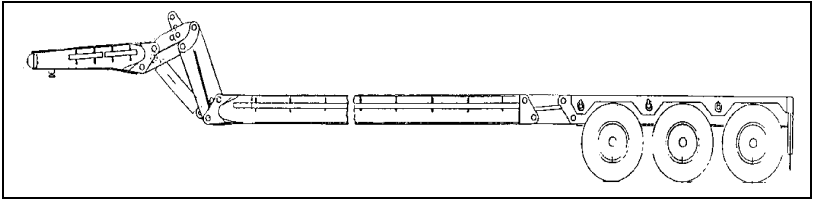

Fig 7-5-2 35 Ton Variable Deck Trailer
2. **Tractor Trailer.** The current tractor trailer unit is the HLVW 20-Ton tractor with a 35-Ton variable deck trailer (front and rear gooseneck) (Fig 7-5-2). It is suited for transporting engineer stores and equipment on long and short hauls. It has some cross country capability and can be used as a recovery vehicle, if necessary.